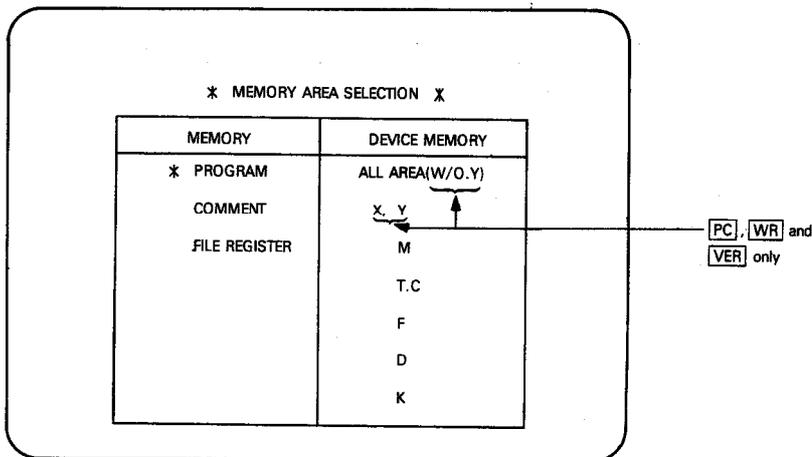

Fig. 6.1
- (1) By pressing the **PC** and function (**WR**, **RD**, or **VER**) keys, the screen shown in Fig. 6.1 is displayed. By use of the **↑**, **↓**, **→**, and/or **←** key, move the cursor to the item required and press the **GO** key. "*" is displayed at the position of the item which is to be executed.